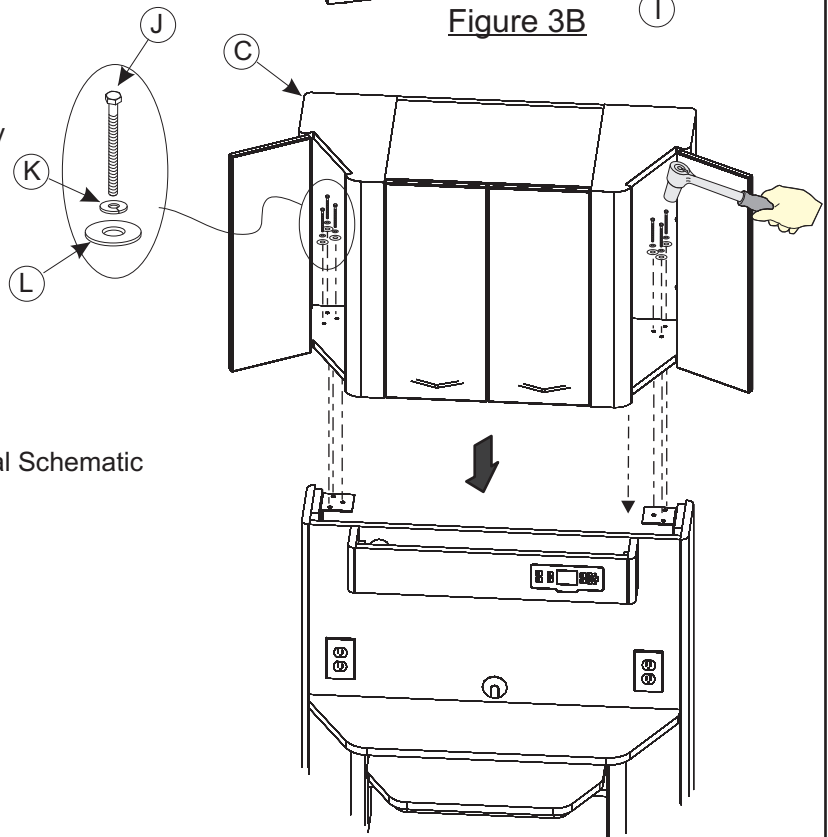

Figure 4
Place Upper Storage (C) onto metal brackets located at the top of the Lower Cabinet sides. Line up the holes with in the metal brackets with the holes in the bottom of the Upper Storage (see Figure 4).